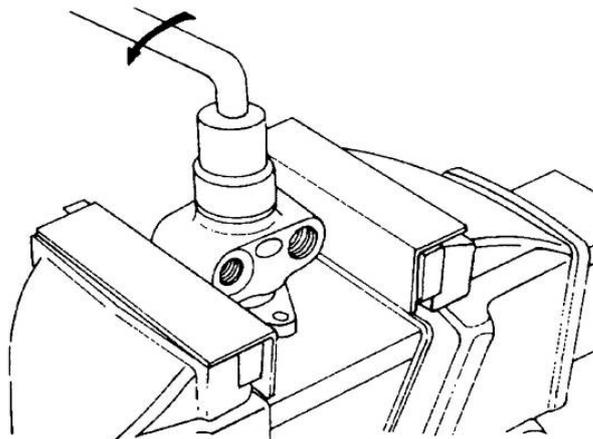

Figure 132 Removal of the Plug
- d. Clamp the pump in the vice so that the plug faces upward and remove the plug (Figure 132). Discard the gasket.